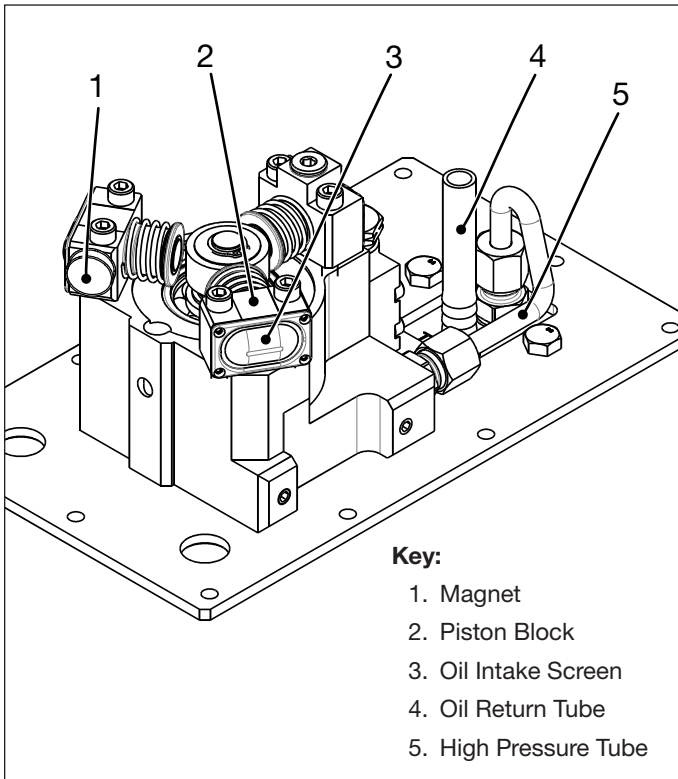

Figure 15: Inspection and Cleaning - Pump Element
7. Remove the reservoir magnet and wipe it with a clean, lint free cloth. Remove any metal shavings or sludge. Then, reinstall the magnet on the side of the piston block, in the preferred location shown in Figure 15.